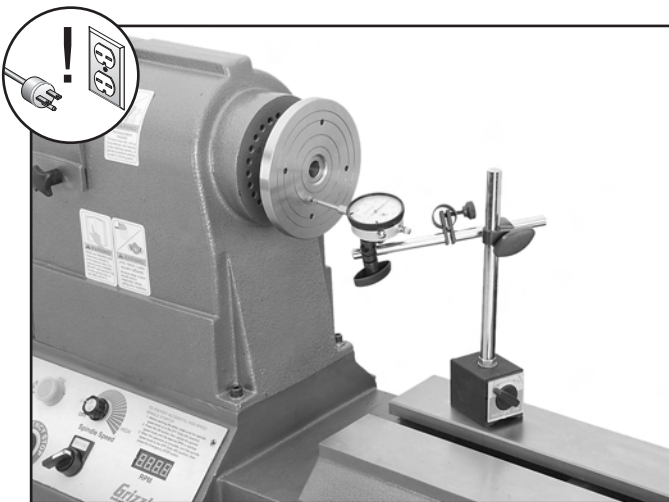

Figure 68. Using a dial indicator to measure end play.
20. Set up a dial indicator, as shown in **Figure 68**, and while holding the spanner nut with a leather glove, push and pull it toward the tailstock to determine the amount of end play. The correct amount of end play is 0.001"–0.002".